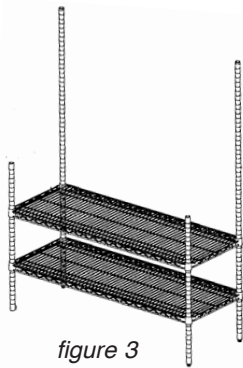

figure 3
- Lower the shelf onto the posts until the plastic tapered split sleeves are snugly fitted within the shelf collars. Repeat this step for second undershelf. Refer to *figure 3*.